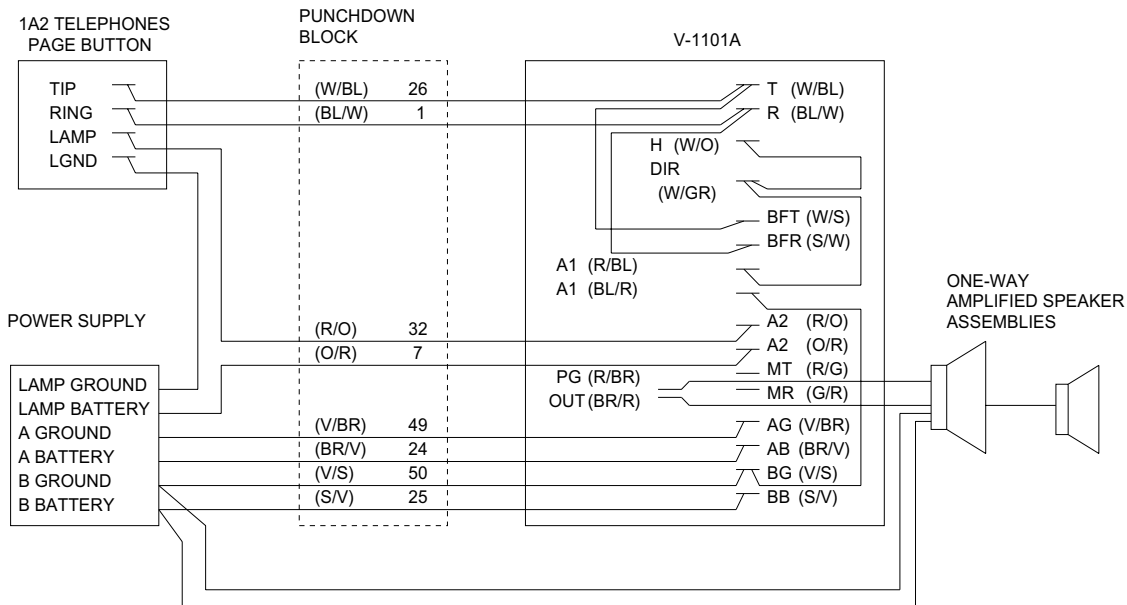

FIGURE 4
- \_\_\_ 3. 1A2 key system line button access: Proceed to Figure 4.
Connections for access by a 1A2 line button are similar to those above, except that the unit is cross-connected directly to the button of the telephone instead of to a trunk card (Figure 4). A spare set of relay contacts is used to switch lamp voltage to the phones.